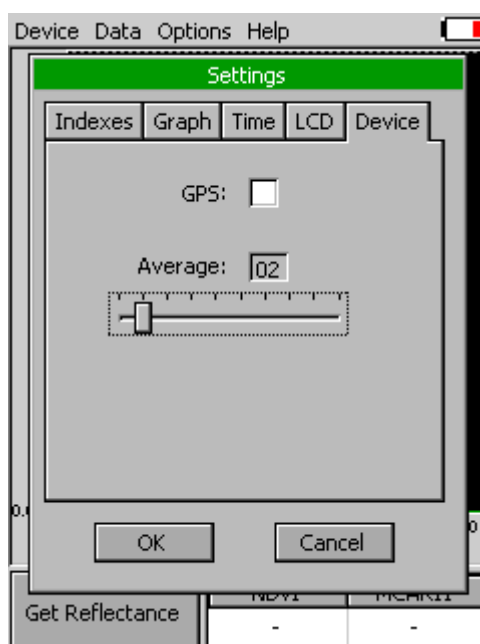

Fig. 14 Number of reading scans and GPS module function
- *Average* – Average function is used for adjusting the number of scans for each reading. Averaging of more scans results in a higher signal-to-noise ratio but increases the time required for each reading that appears on the screen. Move slider to set the number of measurement to be acquired for averaged values (Fig. 14). Data are affected.